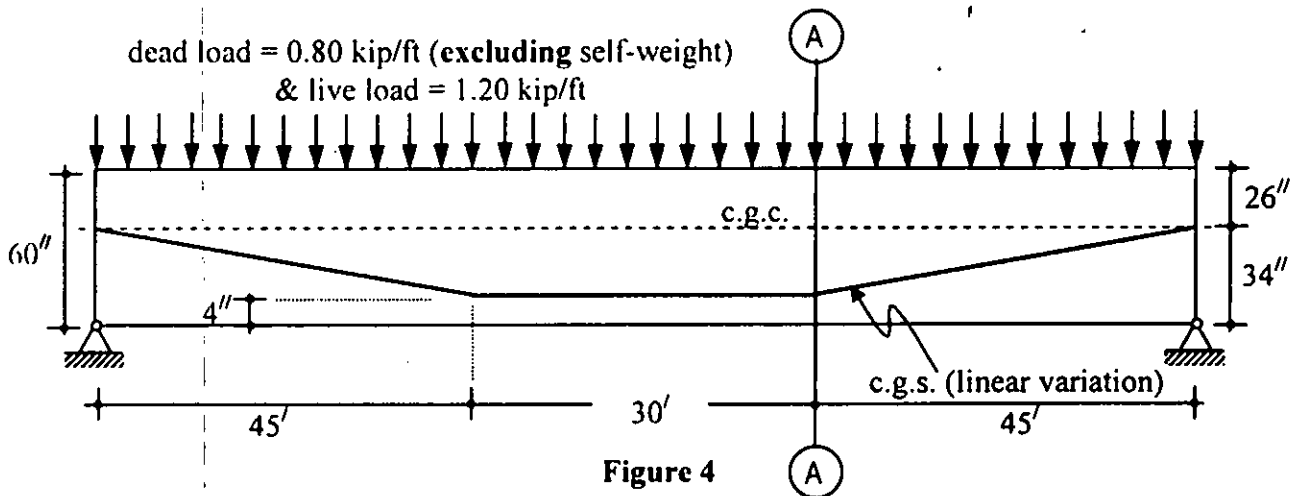

Figure 4
(c) Compute elastic shortening loss of the pre-stressed concrete simple beam at location A-A as shown in Figure 4. (12)